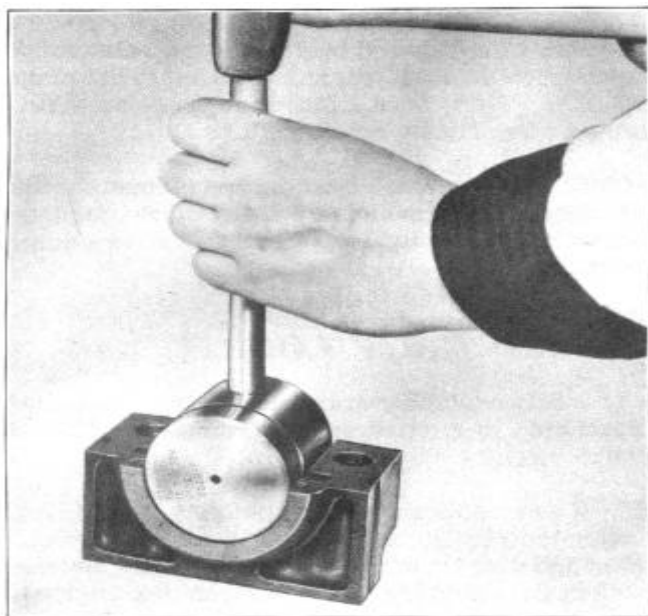
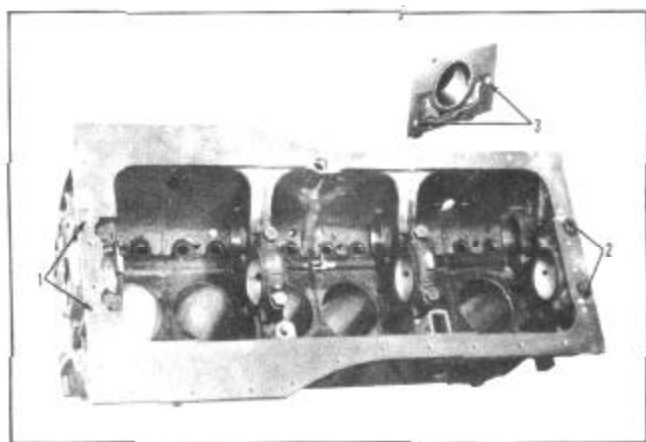

FIGURE 16
FIGURE 17
1. Crowd the seal material into the outer groove of the bearing cap by hand and with Main Bearing Oil Seal Installer J-2779, drive the seal tightly into the groove by tapping handle of tool with a bronze hammer, Figure 16..
5. Install wick packing into the vertical holes (1) and (2) in front and rear caps first, Figure 16, then into the horizontal holes (3) of the front bearing cap, Figure 17.